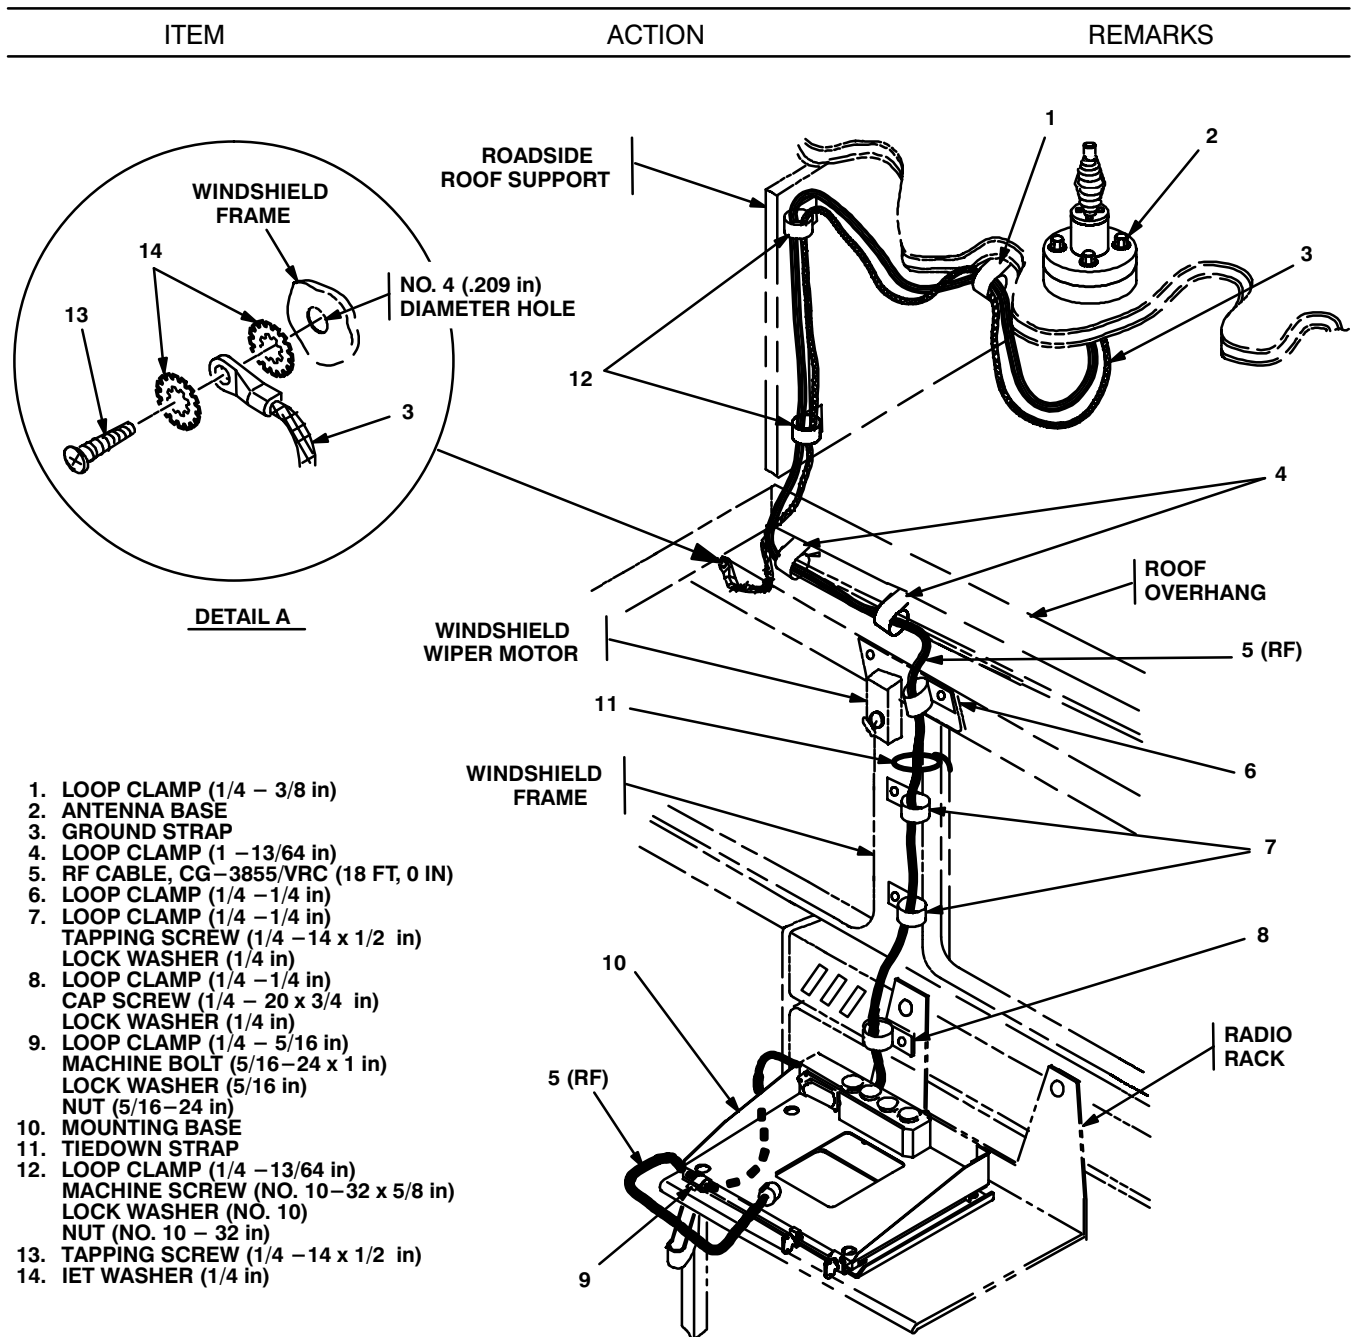

Figure 5-7. RF Cable Installation: M997 Ambulance
| f. | Roadside roof support. | Drill two 7/32 in diameter holes through support for mounting loop clamps (12). See figure 5-7 for location(s). | Tools: Electric drill and 7/32 in drill bit. |